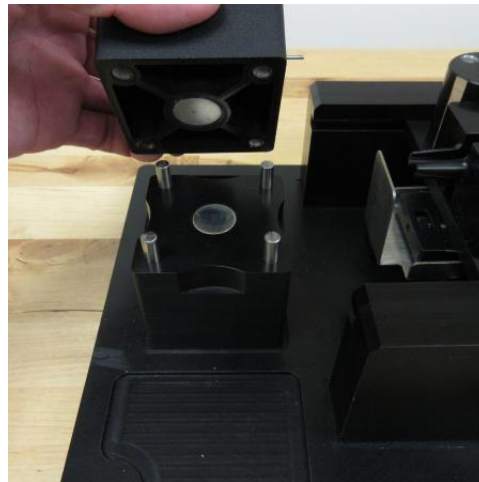

Figure 5
- Rotate the nest to fitting position desired and simply place on the four (4) dowel pins.
- A magnet holds the nest in place. (Figure 5)